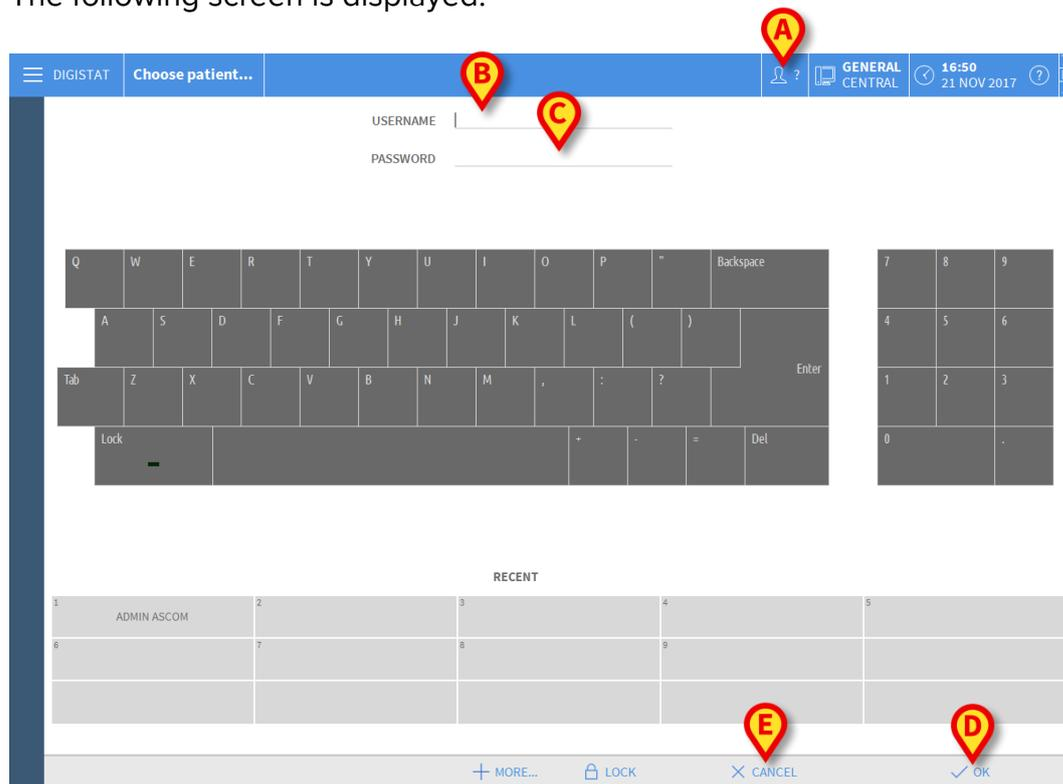

Fig 7
For this reason, at the beginning of every work session, it is necessary to click the **User** button (Fig 7 A).
- Enter your username in the “**Username**” field (Fig 7 B)
- Enter your password in the “**Password**” field (Fig 7 C)
- Click the **Ok** button (Fig 7 D)
- Click the **Cancel** button (Fig 7 E)
To log in again, click the **User** button again. The screen shown in Fig 7 will appear again.
After selection, the “**User list**” window closes and the name of the selected user appears in the “**Username**” field on the “**Login**” screen (Fig 7 **B**).